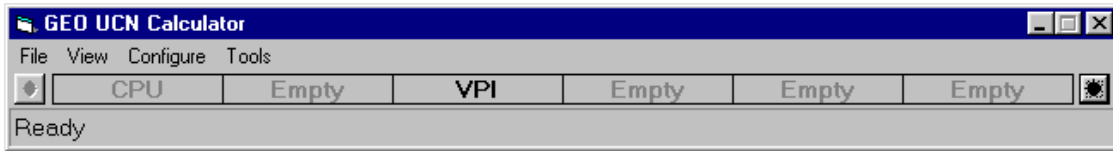

Figure 2-11
1. Select the first MCF for the application in the **Installations** tab, then click on **UCN Calculator**. The **GEO UCN Calculator** window is displayed (see example in figure 2-11).